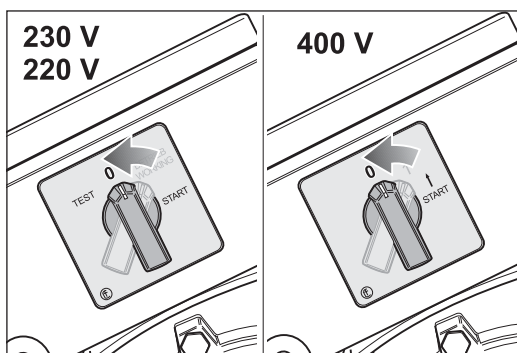

Fig. 24 To switch off the machine turn the switch button to position -0-.
- 2 Turn the switch button to position -0- (Fig. 24).